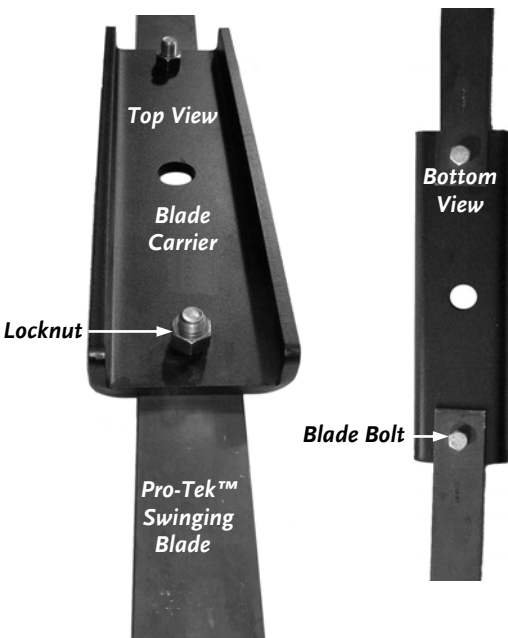

Figure 33
1. Using two 15/16" Wrenches, remove the Top Lock Nut (right-hand, regular thread) and then the Blade Bolt followed by the Pro-Tek™ Swinging Blade (**Figure 33**).
3. Install the Locknut until it just touches the Blade Carrier using two 15/16" Wrenches to allow for the Blade Swinging action (**Figure 33**).